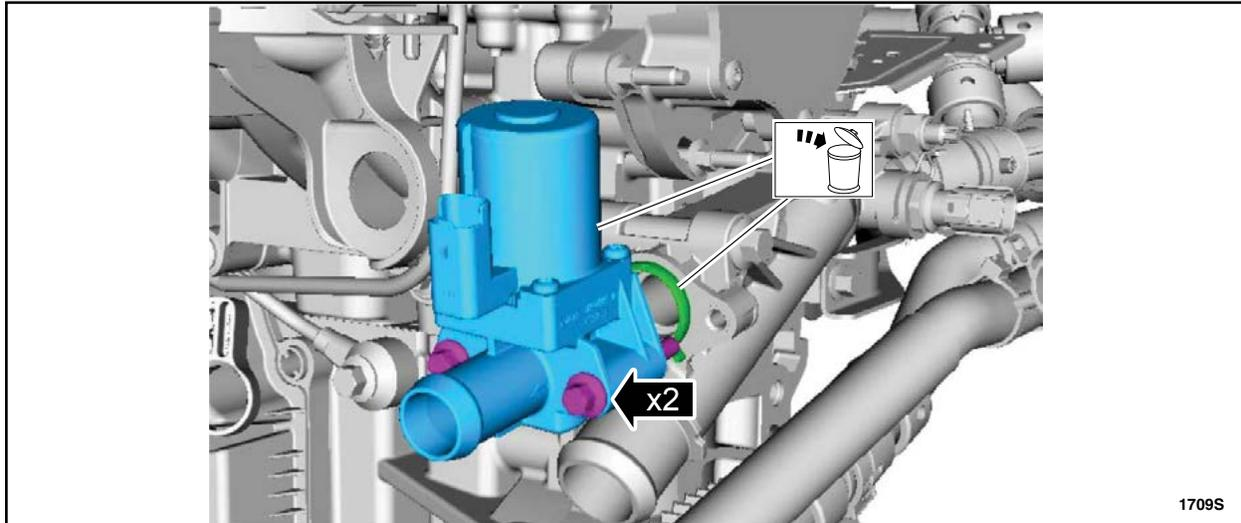

**FIGURE H2**
2. Use a 13 mm (1/2 in) deep well socket to press downward on the thermostat retaining clip and rotate to remove it from the thermostat housing. Remove the thermostat spring. See Figure H2.
2. Release the clamp and disconnect the coolant hose. Discard the clamp. See Figure H2.